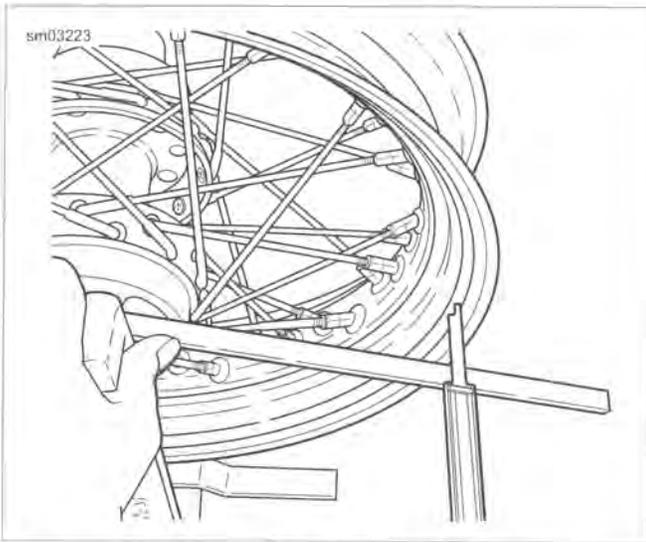

Figure 2-27. Checking Wheel Hub Offset Dimension (typical)
2. See Figure 2-27. Mount wheel in WHEEL TRUING STAND (Part No. HD-99500-80) using truing arbor. Tighten arbor nuts so hub will turn on its bearings.